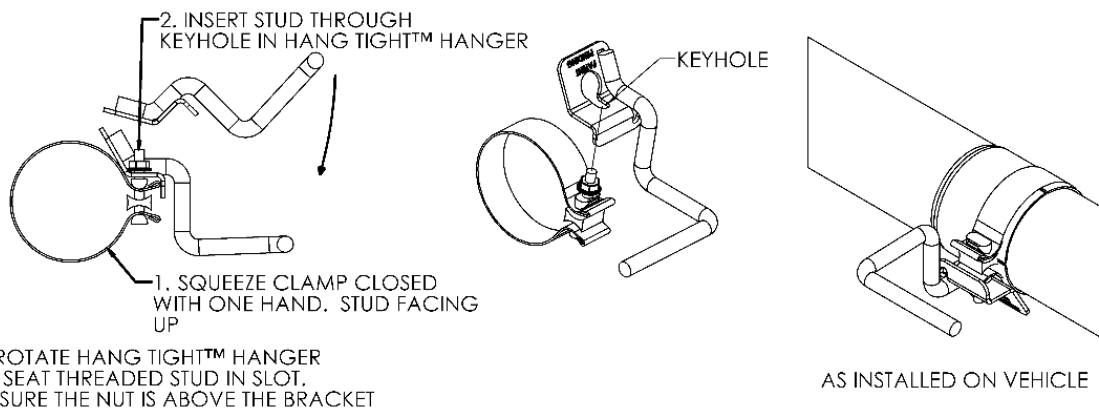

Figure 4
3. Install the muffler over the extension pipe. The **Hang Tight™ Hanger (see figure 4 for Hang Tight™ instructions)** is used at the connection between the muffler and- the extension pipe and is installed into the OEM rubber hanger at this position. **See Figure#3**